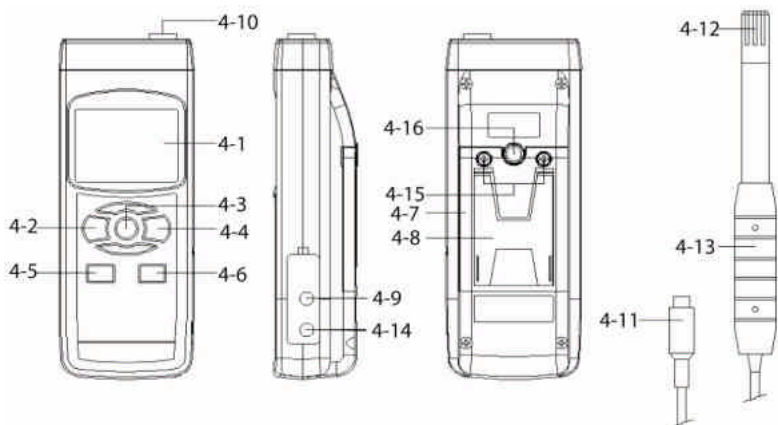

Fig. 1
1. Plug the "Probe Plug" (4-11, Fig. 1) into the "Probe Input Socket" (4-10, Fig. 1).
2. Power on the meter by pressing the "Power Button" (4-2, Fig. 1) for 2 seconds. The LCD will show the units of measure on the display after a quick self test. It will display the %RH in the main display and temperature in the bottom section of the LCD.
To measure DEW Point follow the instructions shown in section 4-3 and then press the "Function Button" (4-5, Fig. 1) momentarily once. The LCD will show the word DEW in the main display and temperature below.
While taking measurements you can freeze the displayed value by pressing the "Hold Button" (4-3, Fig. 1) once. The HOLD symbol will be displayed along with the held measured value on the LCD. By pressing the "Hold Button" (4-3, Fig. 1) a second time will release the displayed value and turn off the data hold function.
1. To record the maximum and minimum readings, press the "REC Button" (4-4, Fig. 1). The REC symbol will be displayed on the LCD. By pressing the "REC Button" (4-4, Fig. 1) you can toggle through the Max and Min values.
2. To delete the recorded values press and hold the "Hold Button" (4-3, Fig. 1) for about 3 seconds.
3. To stop using the REC function, press and hold the "REC Button" (4-4, Fig. 1) for at least 3 seconds.
1. Press and hold the "SET Button" (4-6, Fig. 1) for about 3 seconds to enter the settings menu (you will see the word code on the bottom of the LCD).
2. Pressing the "Enter Button" (4-4, Fig. 1) will bring you to the unit of measure for temperature (see section 5-1 if you wish to change the unit of measure).
3. Press the "Logger Button" (4-6, Fig. 1) and SEC will be displayed on the bottom of the LCD.
4. To cycle through the number of seconds you would like meter to wait between loggings, press the "Function Button" (4-5, Fig. 1). By pressing the "Function Button" (4-5, Fig. 1) the following number of seconds will be displayed on the top of the LCD: 1, 2, 10, 30, 60, 600, 1800 or 3600.
5. Once the number seconds you require is displayed on the LCD, press the "Logger Button" (4-6, Fig. 1).
6. Press the "Enter Button" (4-4, Fig. 1) to exit the settings menu, then press the "ESC Button" (4-3, Fig. 1).
7. Press the "REC Button" (4-4, Fig.1) momentarily to start the data log function. The REC symbol will be displayed on the LCD. The data logger function can save up to 1000 values of measure (either Humidity & Temp. or Dew Point & Temp).
8. Press the "Logger Button" (4-6, Fig.1) and the meter will start logging. You will see the A flashing on the top of the LCD every time a logging event has occurred. The A flashing will match the number of seconds you set in the setup of the data logger function.
1. Press the "REC Button" (4-4, Fig.1) momentarily to start the data log function. The REC symbol will be displayed on the LCD. The data logger function can save up to 1000 values of measure (either Humidity & Temp. or Dew Point & Temp).
2. Press the "Logger Button" (4-6, Fig.1) every time you would like the meter to record a value. You will see an A flash in the top of the LCD. The meter will not record another measurement until you press the "Logger Button" (4-6, Fig.1) again.
1. Press and hold the "SET Button" (4-6, Fig. 1) for about 3 seconds until the LCD displays "Code". Once you release the button you should see 1000 in the main display. 1000 is the password code to allow advanced measuring procedures. To leave the setting menu press the "ESC Button" (4-3, Fig.1).
2. Press the "Enter Button" (4-4, Fig. 1).
4. Now you are in the setting area to set or change the temperature unit of measure. Pressing the "Set Button" (4-6, Fig. 1) will cycle through the following setting sections:
1. Press and hold the "Set Button" (4-6, Fig. 1) for about 3 seconds until you see the word "COde" in the bottom of the LCD.
2. Press the "Enter Button" (4-4, Fig. 1). Now you may select between °C & °F by pressing the "Function Button" (4-5, Fig. 1). When a "0" is in the main LCD the unit will display temperature in °C. When a "1" is in the main LCD then the unit will display temperature in °F.
1. Press and hold the "Set Button" (4-6, Fig.1) for more than 3 seconds.
2. The main LCD should then display 1000. Now press the "Enter Button" (4-4, Fig. 1)
3. Now press the "Set Button" (4-6, Fig.1). You will see SEC in the bottom left of the LCD.
4. Use the "Function Button" (4-6, Fig. 1) to cycle through the available seconds settings. Stop on either 0, 1, 2, 10, 30, 60, 600, 1800 or 3600. The value you select will tell the meter how often to log an event. Note that 0 SEC can only be used in the manual logging function.
5. Press the "Enter Button" (4-4, Fig.1) to confirm your selection and save it to the meters memory.
6. Press the "ESC Button" (4-3, Fig.1) to go to the normal measurement mode.
1. Press and hold the "Set Button" (4-6, Fig.1) for about 3 seconds.
3. Press the "Set Button" (4-6, Fig.1) twice and you will see the Cnt marker in the bottom of the LCD. The top number is the number of available data points.